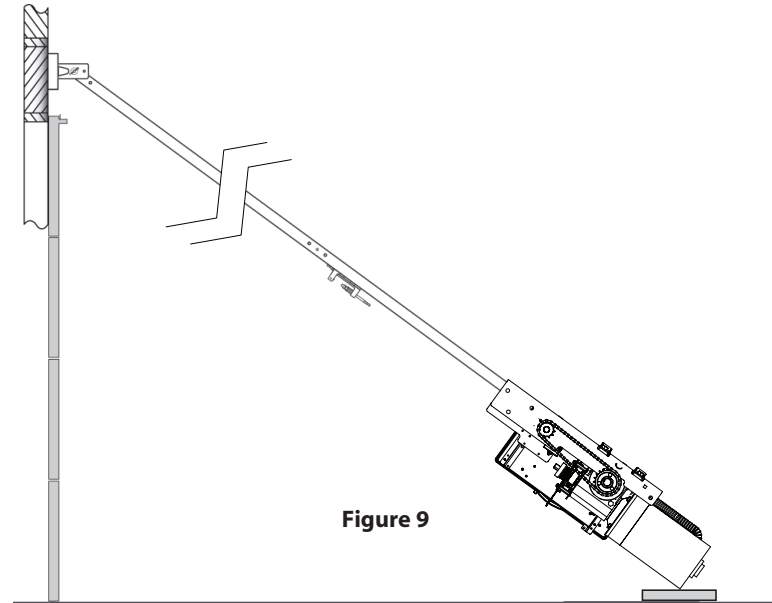

Figure 9
- 8) Position the spreader bracket on your centerline with its bottom edge on your horizontal mark. **Fig. 9.**